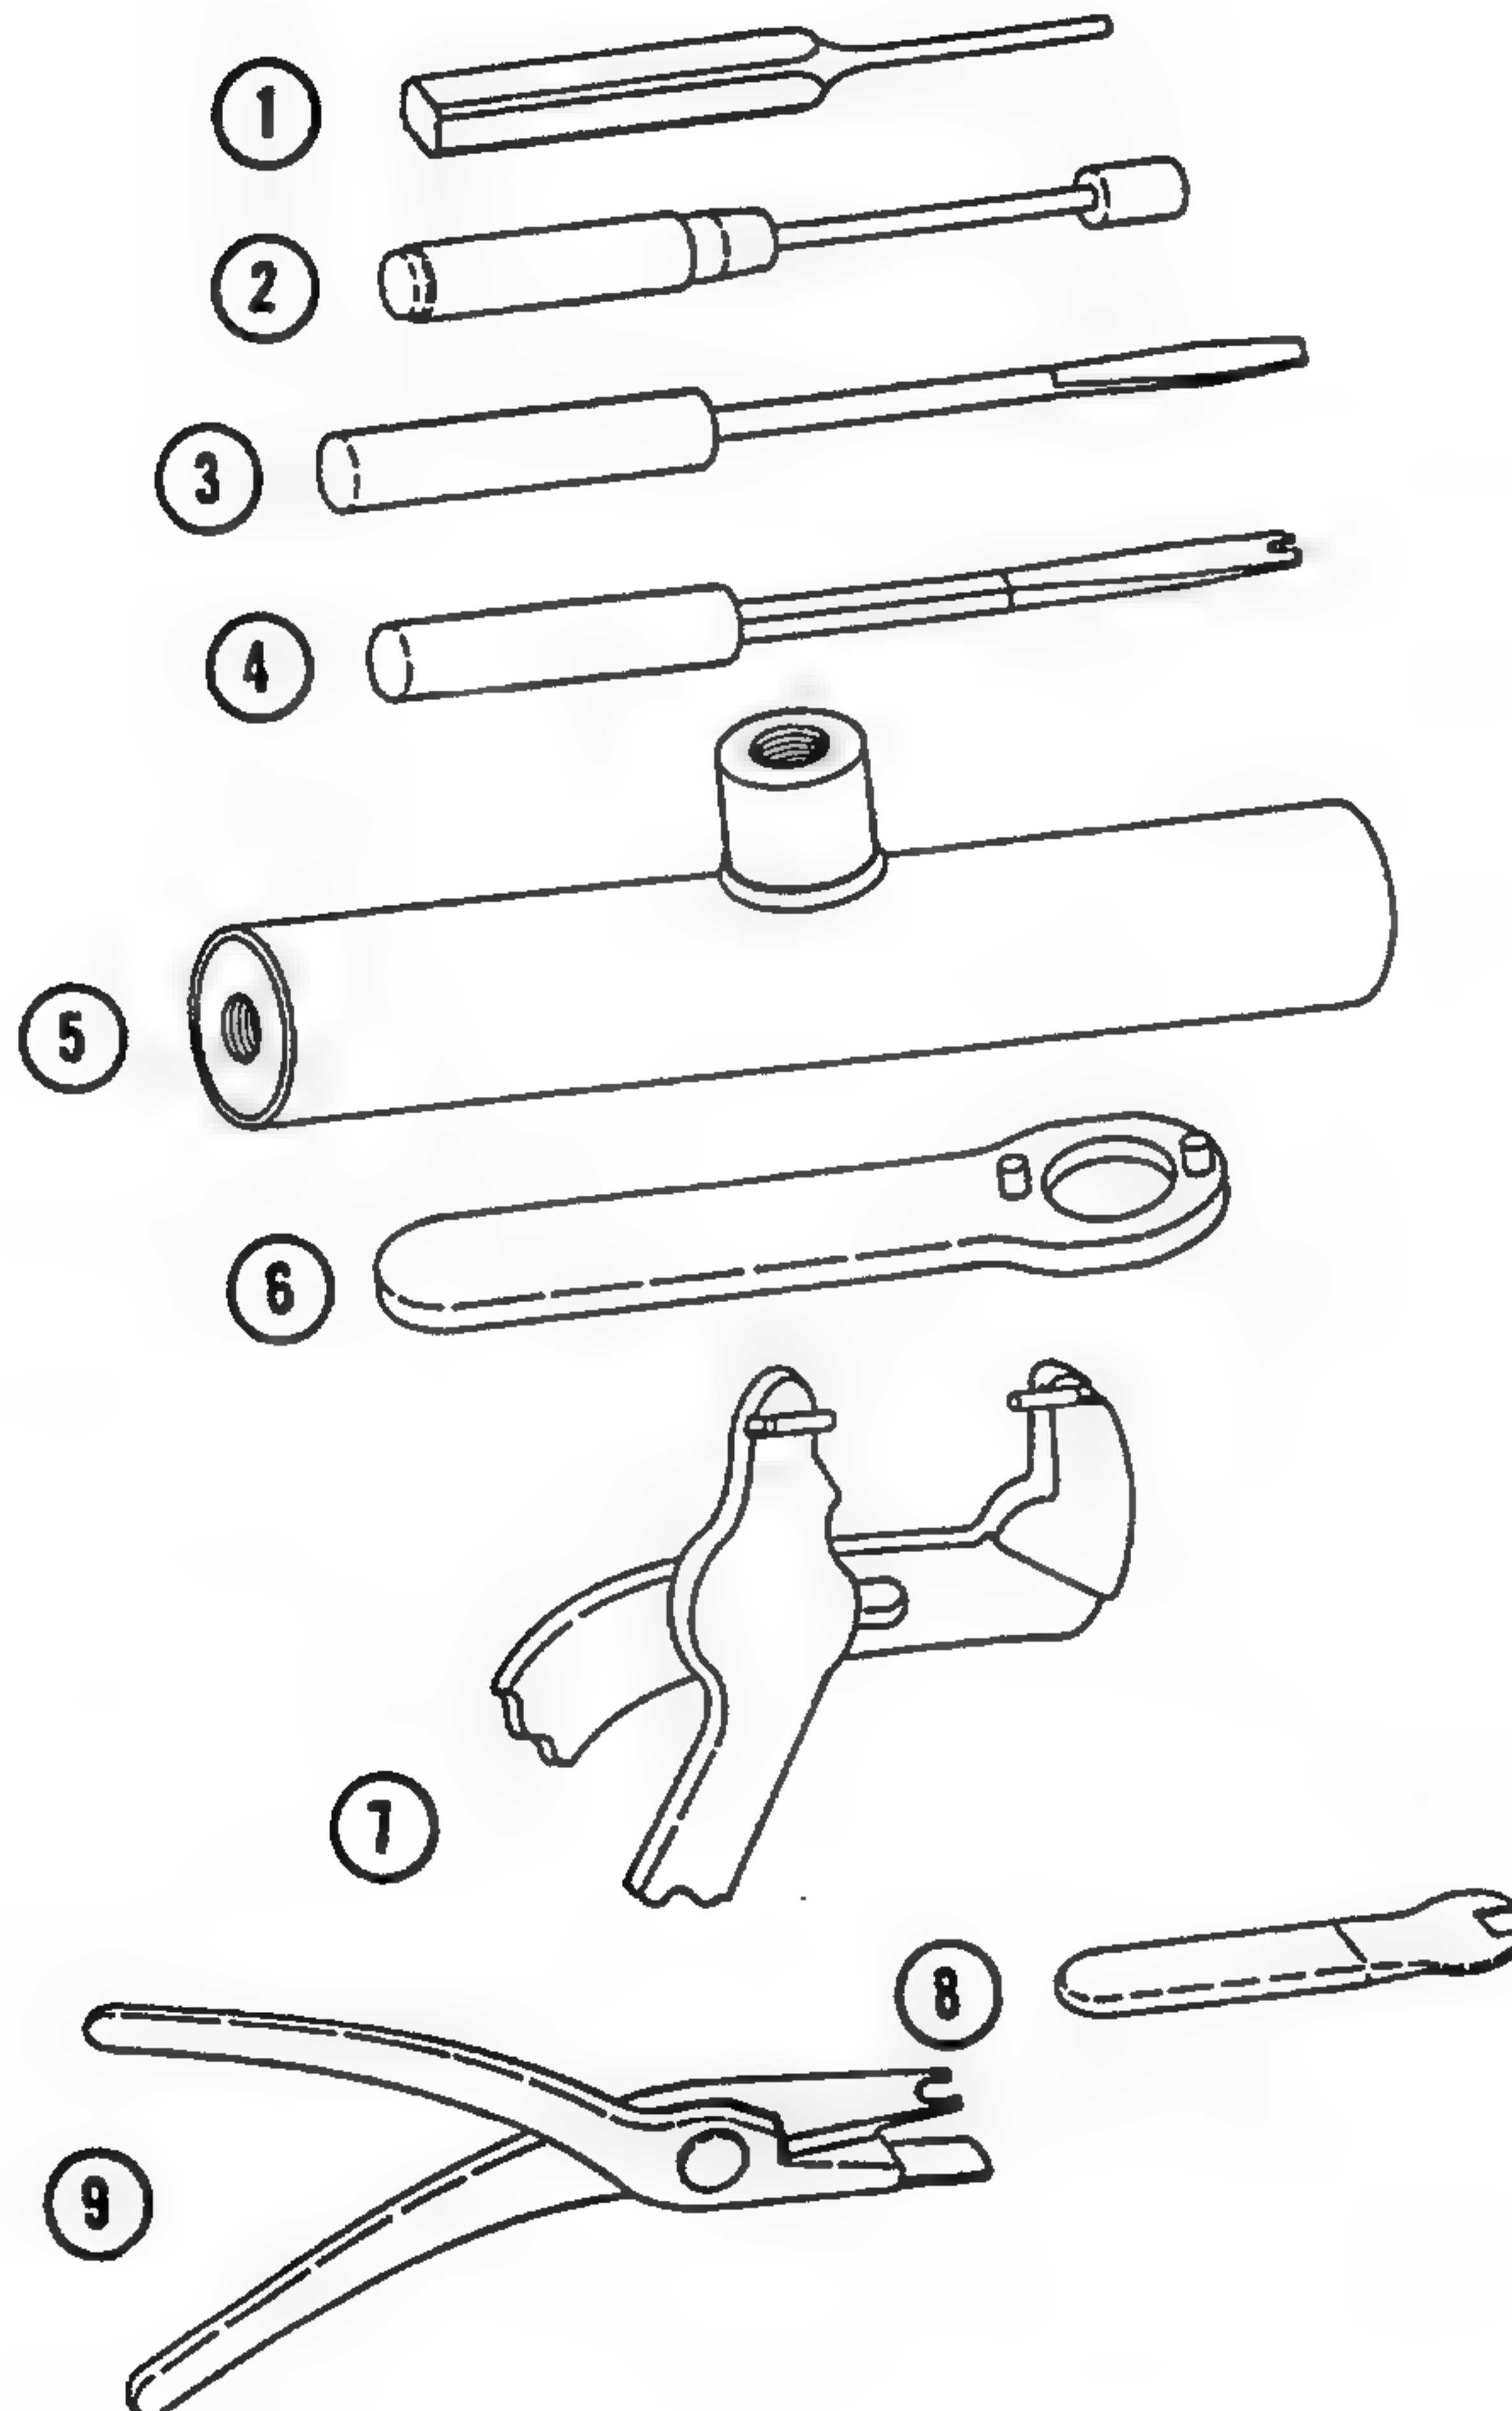

Figure 901: Special Tools
A list of special tools and/or equipment required for assembly of the 10260 Series Oxygen Regulator Assemblies is presented in Table 701. Entries in the "ITEM NO." column refer to the tool illustrations presented in Figure 901. Equivalent Tools and/or Equipment may be used for the listed items.
B. Attach plate (440, -450, -460) to body (480) with screws (470).
C. Thread tube (430) into body (480) using screwdriver (3, Figure 901). Tighten the tube until it bottoms in the body.
D. Assemble shaft (420) to link (380) with pin (370). Lock pin in place with retaining rings (360).
E. Slide actuator (390) through shaft (420); using pin (400), connect link (380), link (410) and actuator (390). Lock pin in place with retaining rings (360). Place spring (350) on shaft (420). Place this assembly into body (480).
F. Push pin (340) through body (480) and rear pivot of link (410) using punch (1, Figure 901). Install gaskets (330) and screws (320). Torque screws to 40-50 IN LBS (4.5 - 5.7 Nm).
G. Place seat (300) on valve (280). Thread nut (310) onto valve (280). Place this assembly in body (480). Using screwdriver (2, Figure 901) thread valve (280) into shaft (420) until flats of nut (310) are exposed beyond wall of body (480). Hold nut (310) with wrench (8, Figure 901) and back-off valve (280) 1-1/2 turns counterclockwise. Lock nut (310) in place using wrench (8, Figure 901).
H. Compress spring (350) and install spacer (260) into place using pliers (9, Figure 901). Check that spacer is secure and maintains the spring in a compressed position.
- J. Thread retainer (290) into body (480) and tighten using screwdriver (4, Figure 901) in outer slots of thread retainer; torque thread retainer to 35-40 IN LBS (4.0 - 4.5 Nm).
- K. Apply a wipe coat of oxygen lubricant only to the outer ring of diaphragm (250). Install diaphragm (250) then plate (240) on actuator (390), finger tight only. Using spanner wrench (6, Figure 901) to hold plate, turn nut (230) to secure plate in position. Torque nut to 35 IN LBS (4.0 Nm).
- L. Place spring (210 or 220) and guide (200) on plate (240). Using spanner wrench (7, Figure 901), screw cap (190) into body (480) until cap is threaded all the way into the body.
- M. Install screw (170) through cap (190) and against guide (200). The screw must seat in the indentation on the guide. A sufficient amount of the screw must remain exposed to maintain a minimum of 1-1/2 threads engagement in nut (160) after proper regulator setting has been established.
Special tools required for maintenance of the 10260 Series Oxygen Regulator Assemblies are presented in Table 901. Figure 901 illustrates the special tools listed in Tables 901. Test Equipment required for testing of the 10260 Series Oxygen Regulator Assemblies are presented in Table 902. Equivalent tools and/or test equipment may be used for the listed items. Refer to the ILLUSTRATED PARTS LIST section of this manual for the item numbers given in the parentheses.